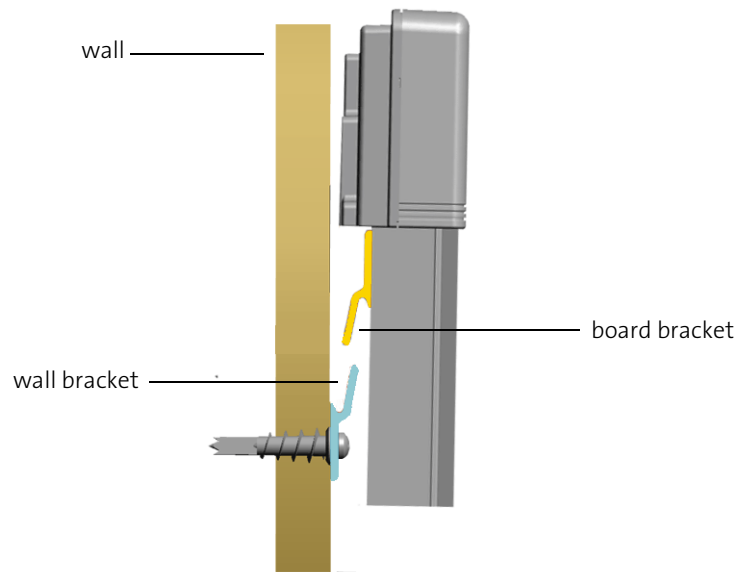

Figure 1-11 Fastening SMART Board to the wall
3. Lift the SMART Board to the top of the open end of the wall bracket and lower the SMART Board onto it (Figure 1-11). Slide the bracket on the back of the SMART Board down into the open slot of the wall bracket. Make sure to test if the SMART Board is secure by sliding it slightly sideways *before* releasing your hold on it.